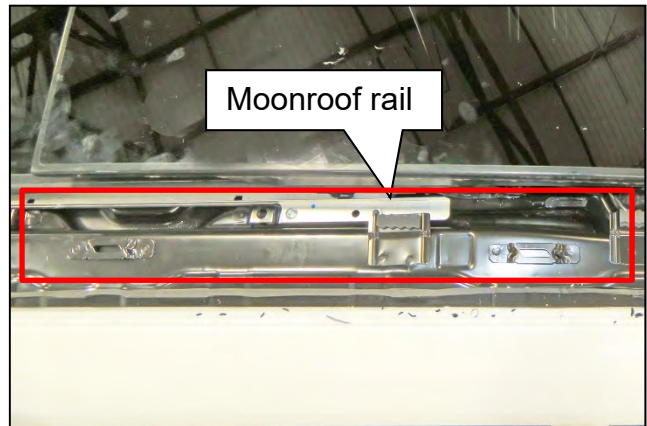

Figure 20
20. Remove any debris / anti-rattle clip material from the Moonroof rail area, outlined in red in Figure 20.